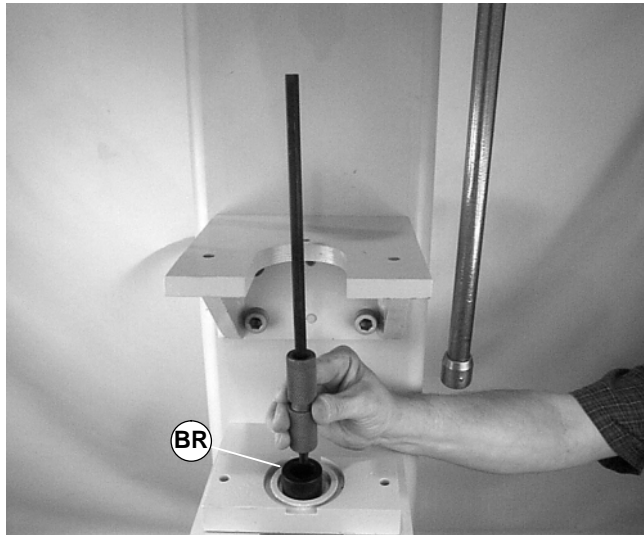

Figure 48
- Orient bearing anvil/sleeve removal tool (part # 25-09☆) (BR of Figure 48) with cavity facing up and place pulley onto tool.